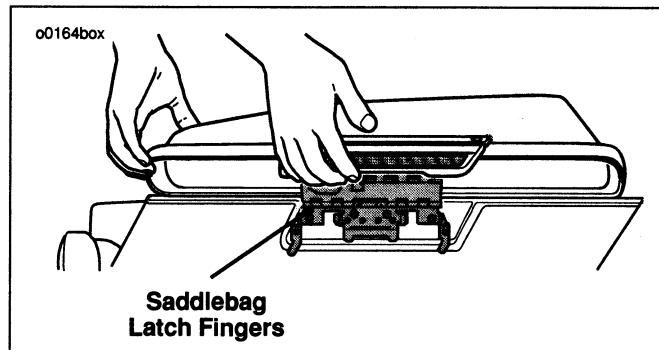

Figure 22. Opening Saddlebag Cover
1. See Figure 22. Pull bottom of saddlebag latch outward and lift upward raising outboard corners of lid.